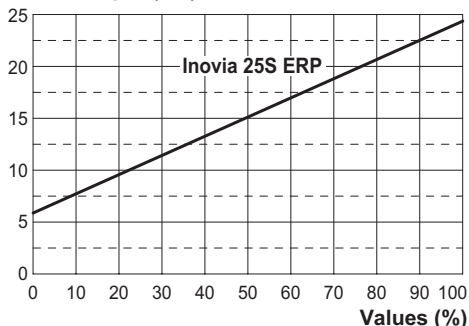
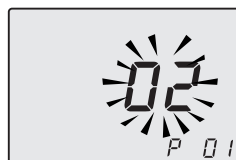
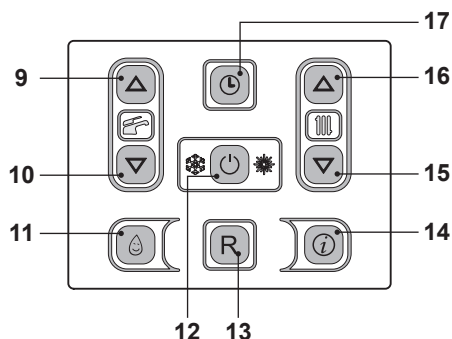

Fig. 7.44
Fig. 7.45
Fig. 7.46
Refer to Fig. 7.44 and determine the correct Value appertaining to the output required for the central heating requirement.
- Enter the "programming mode" by pressing keys 12 - 15 - 16 (Fig. 7.46) for 10 seconds at the same time until the letters **P01** are displayed on the LCD display, indicating that "parameter 01" (Fig. 7.45) has been activated.
- It is possible to modify parameter using keys 9 or 10 (Fig. 7.46) (Refer to Fig. 7.44 and determine the correct Value appertaining to the output required for the central heating requirement.).
- By pressing key 12 (Fig. 7.46) confirmation of the inserted value is obtained.
- Press keys 15 or 16 (Fig. 7.46) to exit without changing the value.